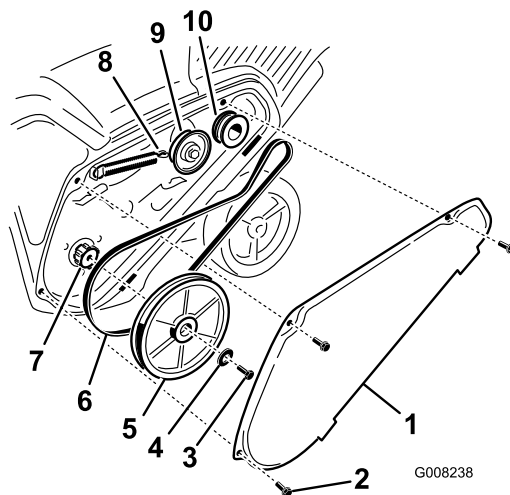

Figure 29
1. Remove the drive-belt cover by removing the 3 bolts as shown in Figure 29.
2. Unhook the brake spring from the idler arm to release the belt tension (Figure 29).
3. Remove the screw and curved washer that holds the rotor pulley (Figure 29).
4. Remove the rotor pulley and the drive belt (Figure 29).
Note: Route the new drive belt first around the engine pulley, then the idler pulley, and finally around the loose rotor pulley positioned just above the rotor shaft (Figure 29).
6. Install the rotor pulley onto the rotor shaft (Figure 29).
7. Install the curved washer and the rotor-pulley bolt and tighten them securely (Figure 29).